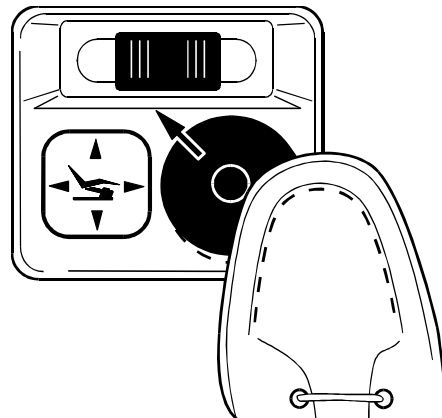

Figure 16
2. Two functions can be actuated simultaneously by sliding the disk in a diagonal direction. For example, Figure 16 illustrates the simultaneous actuation of the back-down and base-up functions.